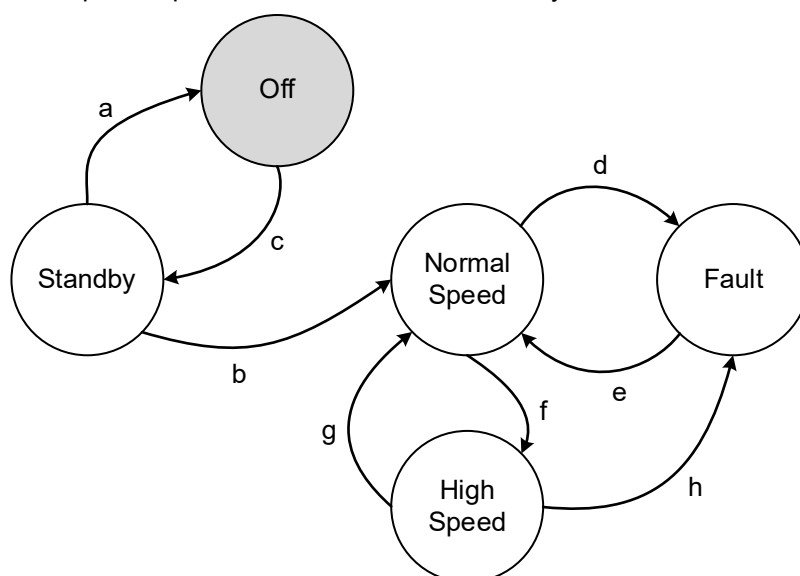

Figure 108. Asynchronous State Machine State Transitions
The Asynchronous State Machine macrocell is one of several macrocells in the Asynchronous State Machine Subsystem, and its specific role is to hold one active state at a time, and to facility user defined state transitions in a fast and power efficient manner. This macrocell is designed to allow the user to create state machines with between 2 to 12 states. When combined with the other macrocells in the ASM subsystem (four Dynamic Memory (DMx_x) macrocells, three Matrix Interface (MIx) macrocells, and one f(1) Computation Macrocell), the user has flexibility to define the available states, the available state transitions, and the input signals (a, b, c ...) that will cause transitions from one state to another state, as shown in the example in Figure 108.